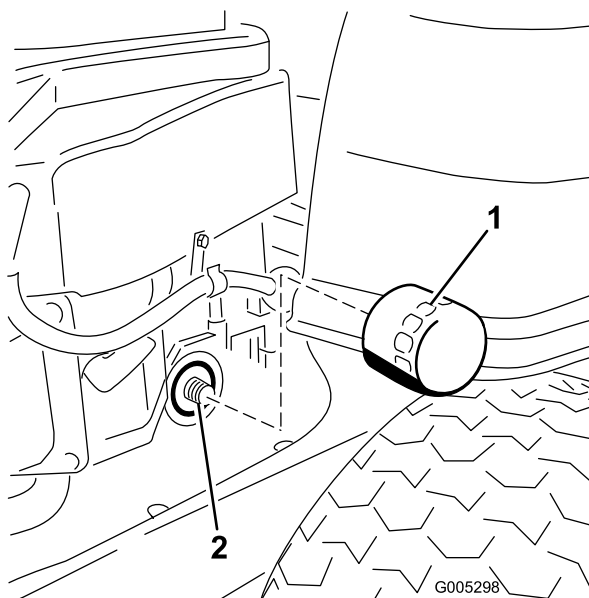

Figure 28
10. Locate the oil filter on the right side of the engine. Remove the old filter and wipe off the filter adapter with a clean cloth (Figure 28).
Turn the oil filter clockwise until the rubber gasket contacts the pad, then tighten the filter an additional 3/4 to 1 turn (Figure 28). Wipe up any excess oil on the frame.